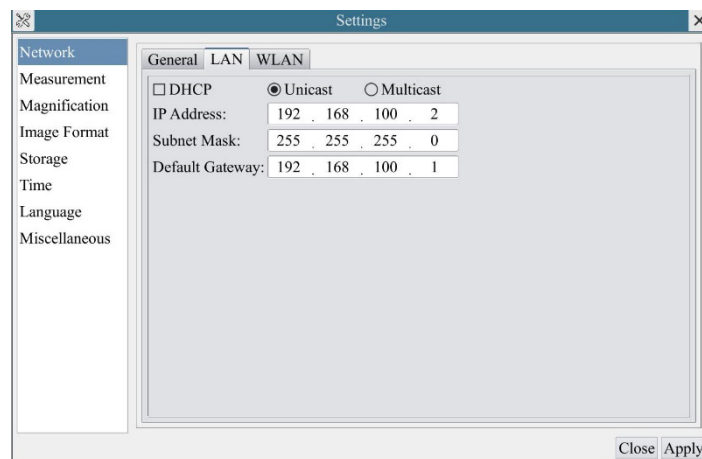

Figure 8-5 Manual DHCP and Unicast
- Subnet Mask** Users must manually configure their **IP addresses** on the camera side and computer side. The IP addresses set on the camera side and computer side should be in the same network segment. The specific settings are shown Figure 8-5. It's usually a private address. Private address is a non-registered address used exclusively within an organization. The internal private addresses retained are listed below: Class A 10.0.0-10.255.255; Class B 172.16.0-172.31.255.255; Class C 192.168.0-192.168.255.255. The suggested **IP address** is Class C. **Subnet Mask** is used to distinguish network domain from host domain in 32-bit IP address;